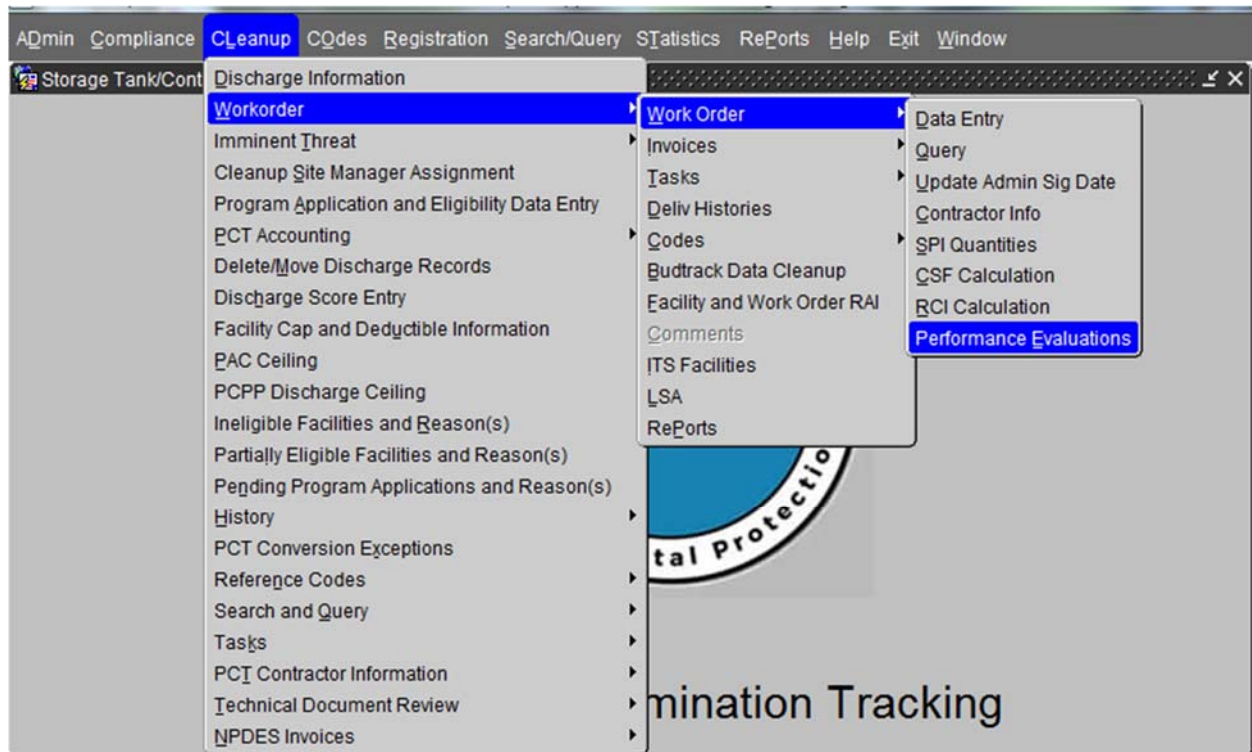

Figure 1
2. **Navigate to:** Cleanup -> Workorder -> Work Order -> Performance Evaluation (*Fig. 1*).
1. **Log in** to STCM and **navigate to:** Cleanup -> Workorder -> Work Order -> Performance Evaluation (Fig. 1).